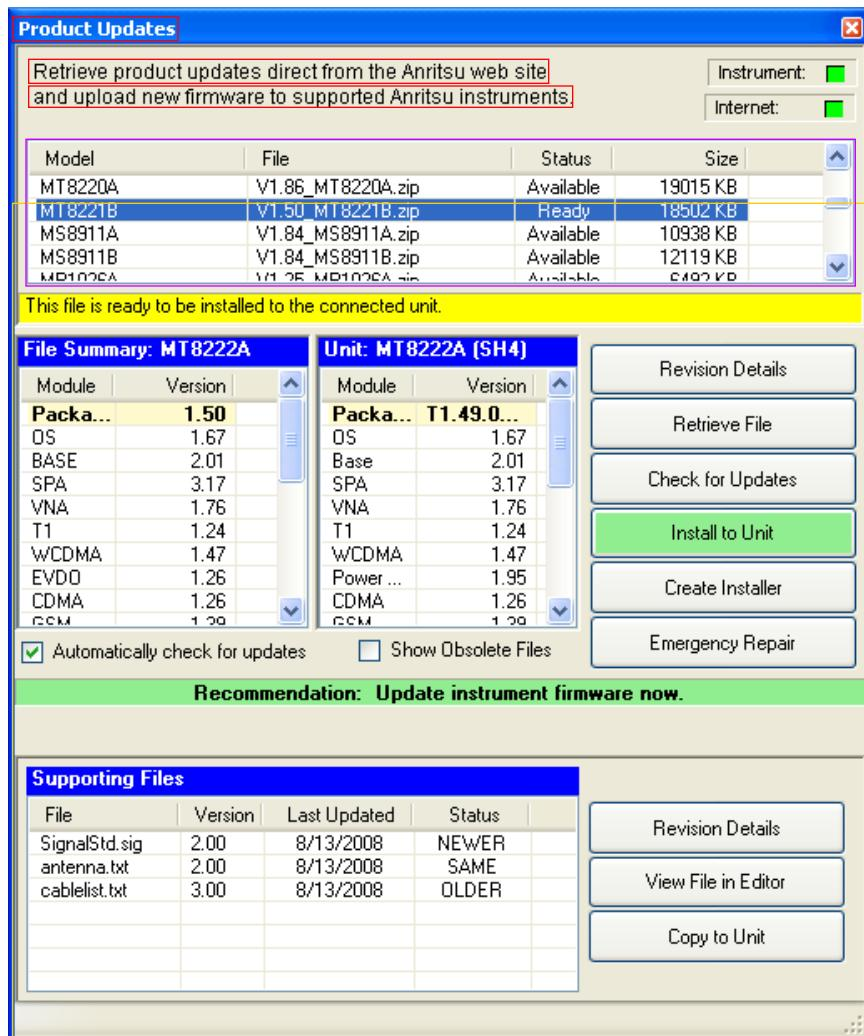
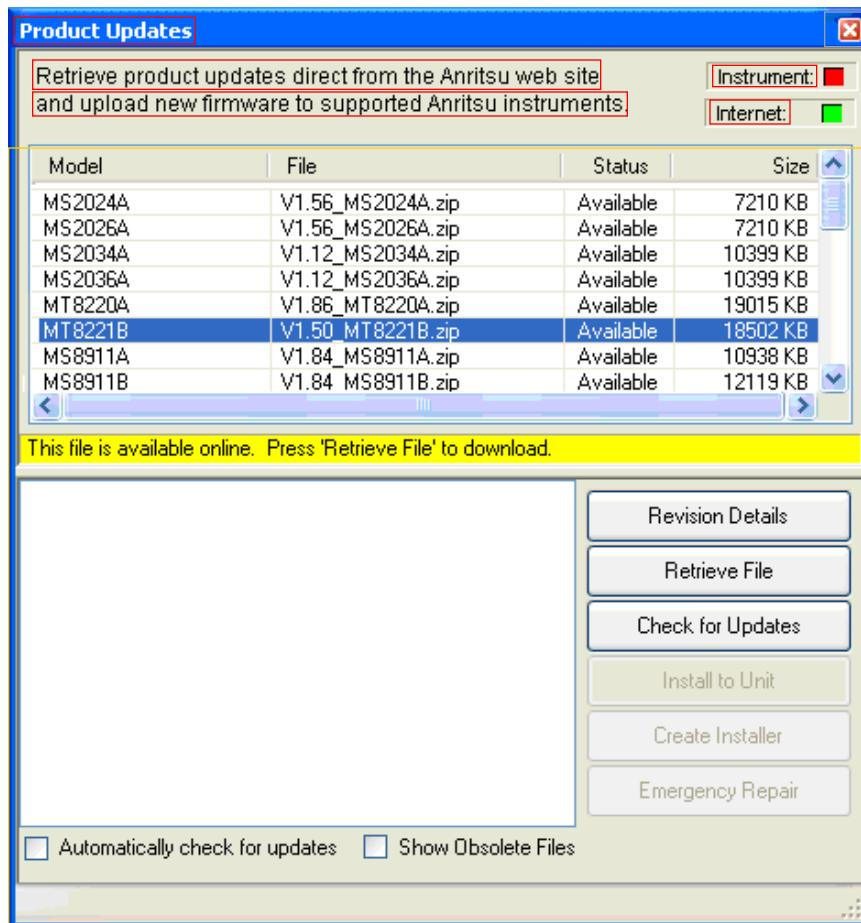

Figure 7-3. Product Updates Window: Status Ready
Figure 7-4. Product Updates Window: Status Available
5. Notice the differences in the two Product Updates windows in Figure 7-3 and Figure 7-4.
In Figure 7-3, the status of the highlighted file is Ready, and the **Install to Unit** button is active. You can immediately click **Install to Unit** to update your Spectrum Master with the new firmware.
In Figure 7-4, the status of the highlighted file is Available, and the **Install to Unit** button is gray and inactive. This means that the updated file is on the Anritsu Product Support Web site and needs to be downloaded to your PC. After the file has been downloaded and placed on your PC, its status changes to Ready, and the **Install to Unit** button becomes active.